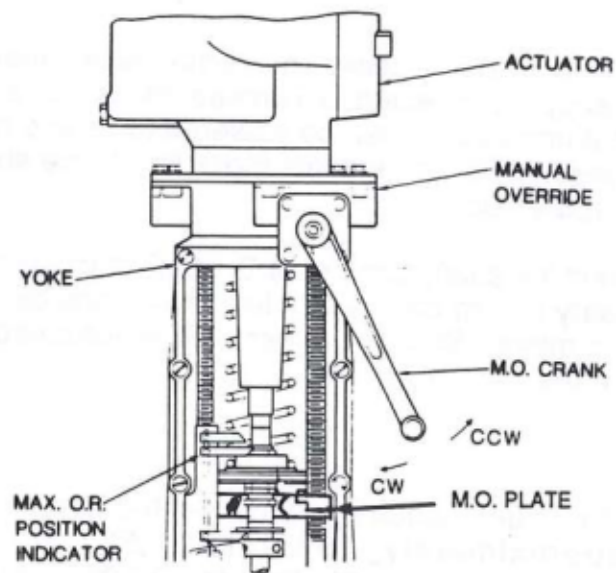

Figure 7-3. Manual Override, Pull Type
7.1.2 Operation of M.O. (see Figures 7-3 and 7-4).